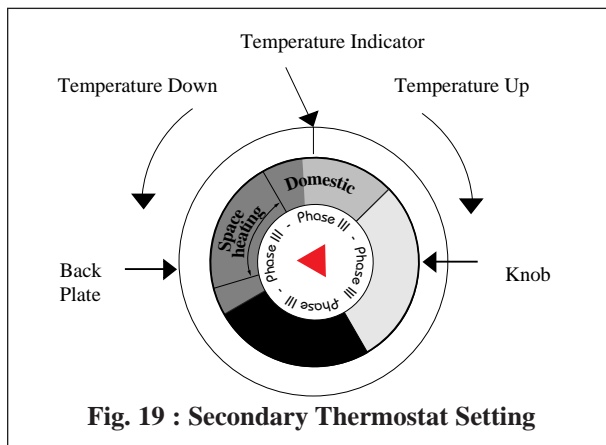

Fig. 19 : Secondary Thermostat Setting
The water temperature control knobs are located on the control console. The set point is indicated by a temperature indicator on the top of the back plate behind the knob. When shipped from the factory the knobs are rotated completely counter-clockwise to the lowest temperature setting. The temperature settings can be increased by rotating the knobs clockwise, see Fig. 19 and 20 below.
- a. See Figs. 19 and 20 for recommended setting.